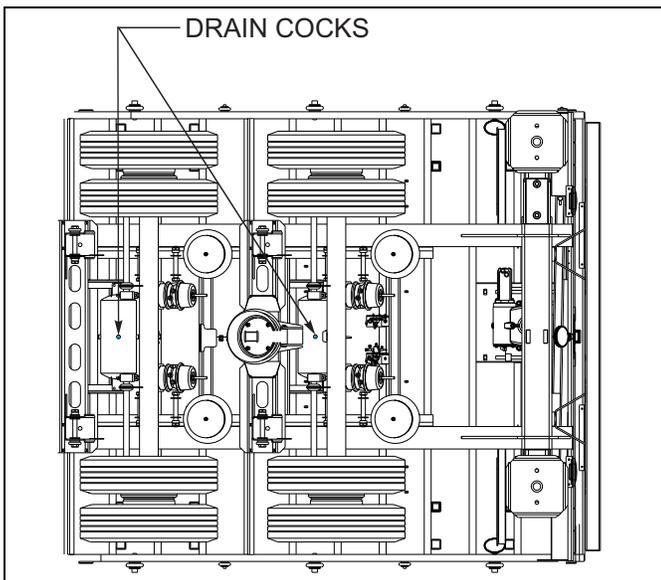

Figure 4-5: Drain Cock Locations
4. Drain air reservoir daily. A drain cock on the bottom of each air reservoir vents the tank to drain collected water and oil. If held open, air pressure in the tanks is relieved, causing the emergency or parking brakes to be applied (See Figure 4-5.)